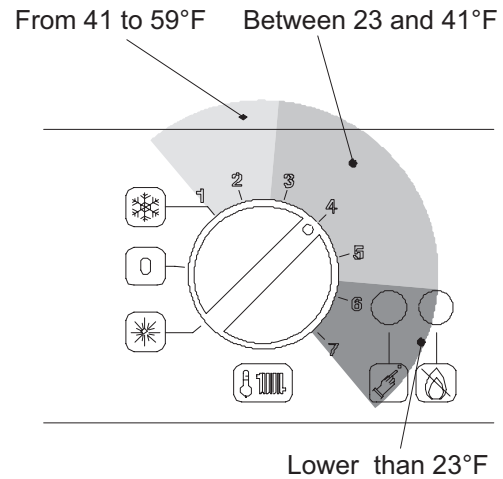

Figure 5.7
- In order to achieve optimal settings for economy and comfort, we recommend adjusting the operating temperature of the central heating water according to the outside temperature, positioning the knob as in figure 5.7.